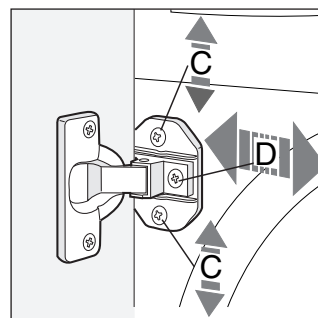

Fig. 16
- To adjust the position of the wooden panel in both the vertical and horizontal directions, use the **C** and **D** screws, as shown in fig. 16.